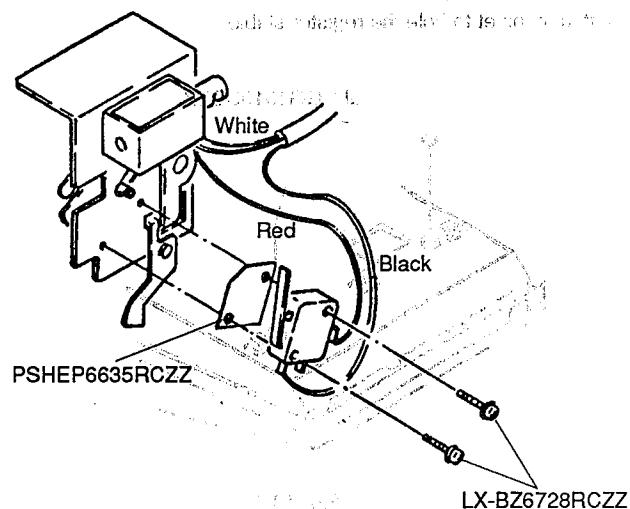

Fig. 13-23
- 9) Install the microswitch on the lock unit as shown in the Fig. 13-23.